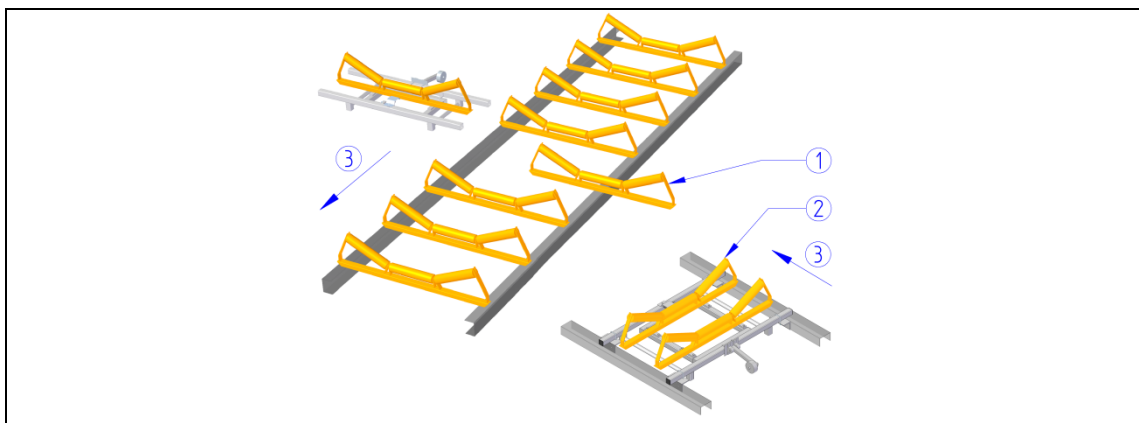

Fig. 8: Mounting the belt weigher
1. Dismantle the present roller chair (1) (s. Fig. 8, p. 13).
2. Shorten the roller chair on the side (2) (s. Fig. 8, p. 13) and attach it to the belt weigher.
3. Place the belt weigher centrally between the adjacent roller chairs, taking into account the running direction (3) (see Fig. 8, p.13) of the belt weigher.